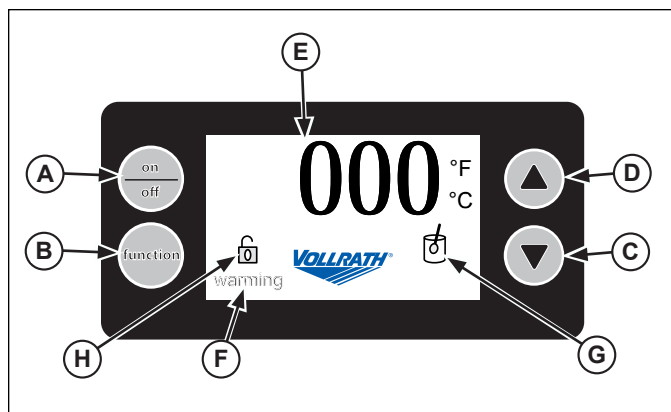

Figure 1. Control Panel
1. Press the ON/OFF button (A) to turn on the unit. See Figure 1.
2. Press the function button (B) to choose °F to °C temperature on the display (E).
5. Press the arrow up (D) or arrow down (C) to select the temperature value program above 155 °F (68 °C). The warming light (F) blinks until the food product heats to temperature.
3. Press the arrow up (D) or arrow down (C) to select the temperature value program. The warming light (F) blinks until the food product heats to temperature.
4. While in the warming mode press the cursor up (D) or arrow down (C) to select temperature you desire. The warming cycle will reach and maintain that temperature until the temperature is reset again.
2. Press the function button (B) to change from °F to °C.
3. To lock the unit: At the same time press and hold the function button (B) and the arrow down button (C) until the lock light (H) appears. The control can not be changed until the unit is unlocked.
4. To unlock the unit: At the same time press and hold the function button (B) and the arrow down button (C) until the lock light (H) disappears. Turning the unit off does not disable the lock feature.